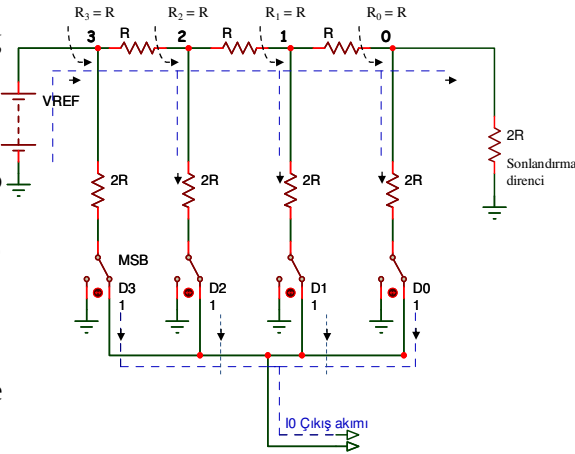

Fig.10-1
- An op amp can be added to the very basic DAC of Fig. 10-1. The result is the voltage output DAC shown in the Fig.10-2. Output current is converted to a voltage V_o by feedback resistor R_F and the op amp.